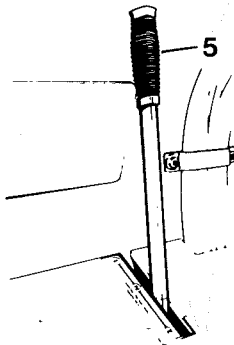

Fig 14
- 2 Move the gear selector (5, in Fig 14) to position 1 (see the sticker).
- 3 Start the engine. Adjust the throttle (16) until the tachometer (13) reads 2 400 rpm. Carry out fine adjustment of the speed by turning the upper part of the throttle.
- 4 Move the forward/reverse lever (15) to the desired direction of travel and control the speed of the machine with this lever.
- 5 When driving on asphalt, switch on the sprinkler system (11) (only on the CA 15A).
- 6 Use the vibration control (19) to engage vibration when the machine is in motion. If the engine speed drops, increase it to 2 400 rpm.